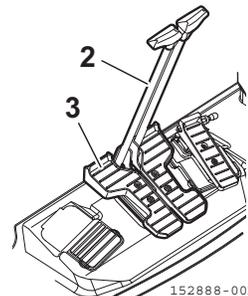

Fig. 3-24
4. Operate the left and right travel levers (**Fig. 3-24, 2**) or pedals (**Fig. 3-24, 3**) as follows:
Operating the travel lever (**Fig. 3-24, 2**) or travel pedal (**Fig. 3-24, 3**) forward moves the machine forward, and operating backward moves the machine backward.
Operating the travel lever (**Fig. 3-24, 2**) or travel pedal (**Fig. 3-24, 3**) backward moves the machine forward, and operating forward moves the machine backward.
5. Returning the travel lever (**Fig. 3-24, 2**) or travel pedal (**Fig. 3-24, 3**) to the neutral position stops traveling.